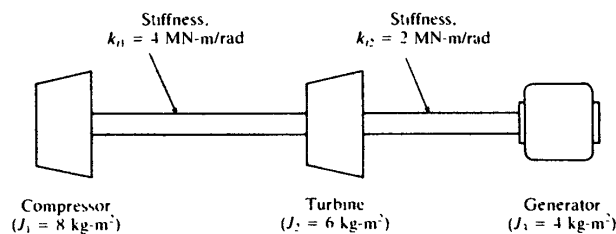

Fig.2.
4. The arrangement of the compressor, turbine, and generator in a thermal power plant is shown in Fig.2. Find the natural frequencies and mode shapes of the system.